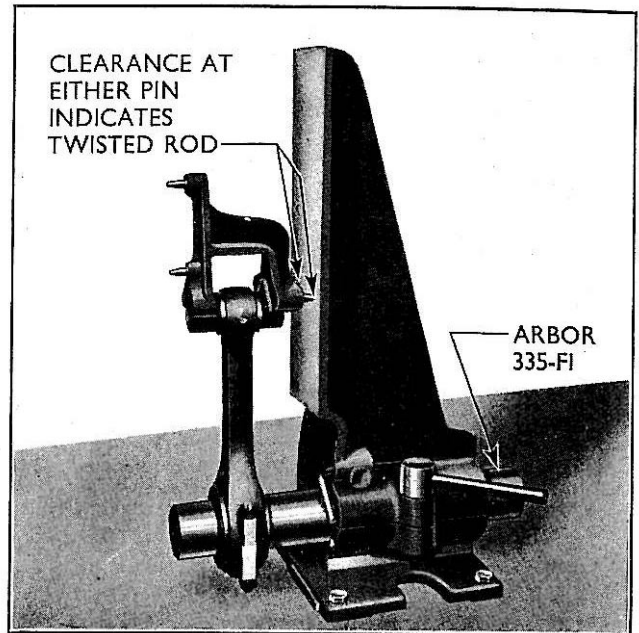

Fig. 63
Connecting rod alignment can be checked by using the connecting rod alignment jig, tool No. 335 and arbor No. 335-F1. This indicates bent or twisted connecting rods, see Fig. 63. The method of testing is described below.
- 2 Bolt the connecting rod, without cylinder liners, to the arbor and with the gauge mounted on the piston pin with the two horizontal pins towards the jig, move the arbor along until the pins touch the machined surface. Clamp the arbor in this position. Clearance between the face of the jig and one of the pins indicates a twist in the connecting rod. (See Fig. 63.)